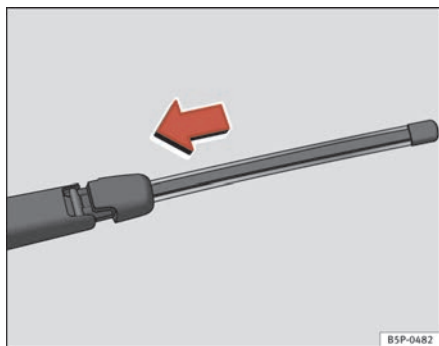

Fig. 163 Mount rear window wiper blade
- Place the blade as shown in the ⇒ page 225, fig. 163 and slide the adapter along until it fits into place.